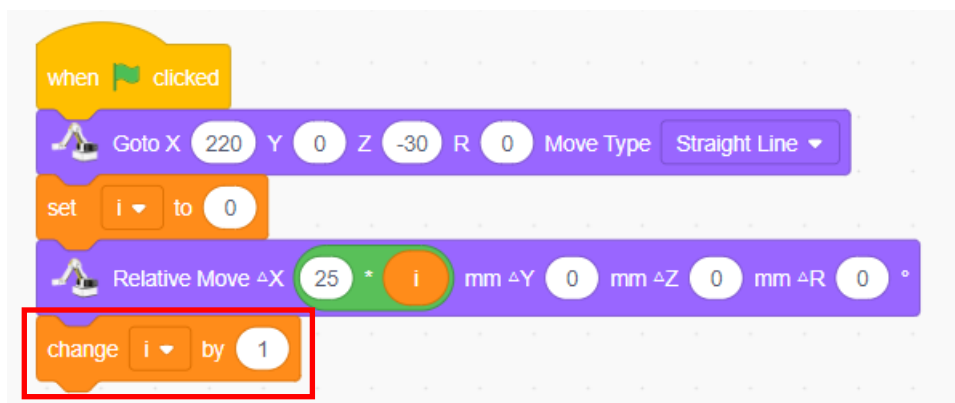

Figure 2.16 Block of increasing the variable
Step 7: Count the number of movements. Each time the robotic arm moves forward, the value of the variable i increases by 1. Click the "**Variables**" tab, drag and drop the "increase the variable" block to the code area and put the blocks together, as shown in Figure 2.16.